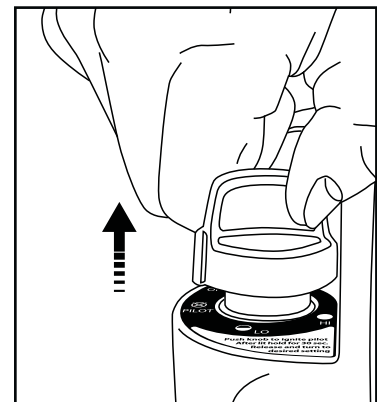

Figure 4: Release knob.
- After pilot lights, hold down for 30 -60 seconds and then release knob. Knob should return to fully extended position; see Figure 4. To
- After pilot lights, hold down for 30 -60 seconds and then release knob. Knob should return to fully extended position; see Figure 4. The pilot should remain lit. To operate heater slightly depress knob and gently turn to lock in the "HI" position to light burner tile. Leave on "HI" position until burner tile turns bright orange.